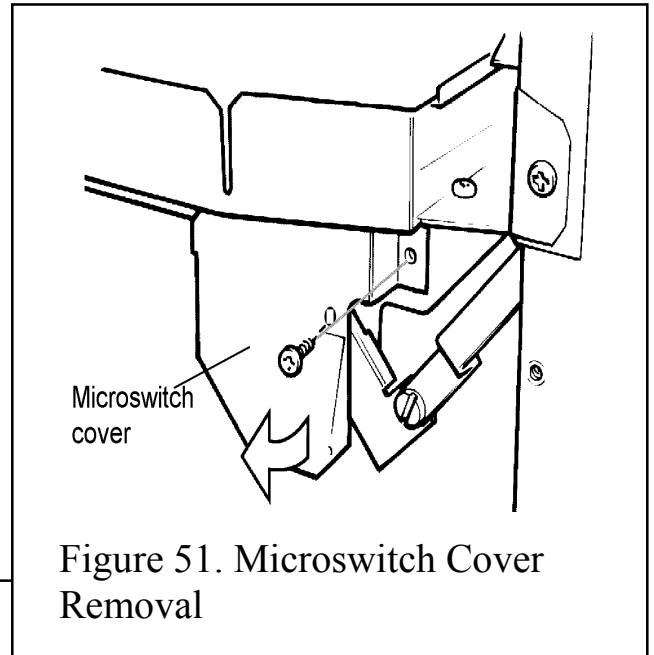

Figure 51. Microswitch Cover Removal
See figures 51 & 52.
2. Detach the microswitch cover by removing one screw and pulling clear of the location lug. See figure 51.
See figures 51, 52 & 53.